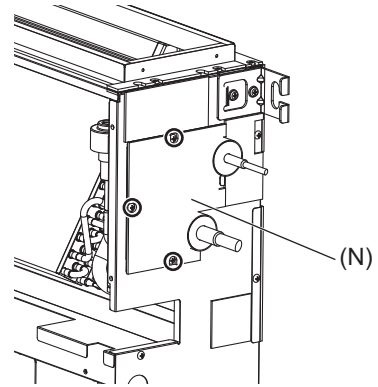

Fig.22
- (1) Remove the three fixing screws on the cover (N) to remove it. (Fig.22)